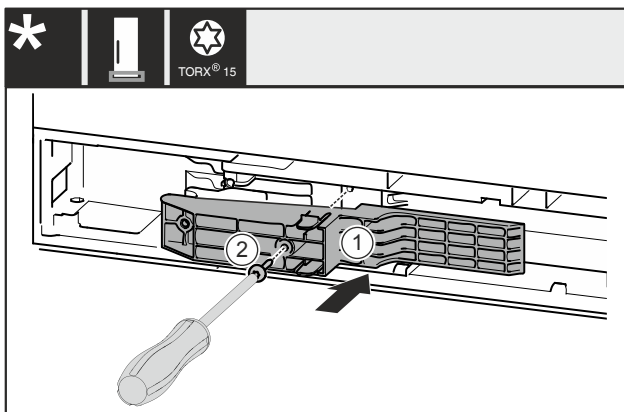

Fig. 51 \*
- ▶ Insert adapter Fig. 51 (1) in the recess on the handle side.\*
- ▶ Tighten screw Fig. 51 (2) with screwdriver.\*